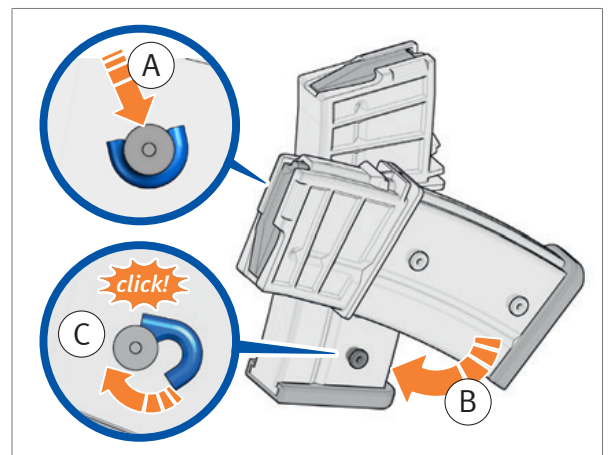

Fig. 74: Lock connector studs into place
2. Insert connector stud into upper slot (Fig. 74).
3. Twist magazines in opposite directions until connector stud engages in the lower slot (Fig. 74).